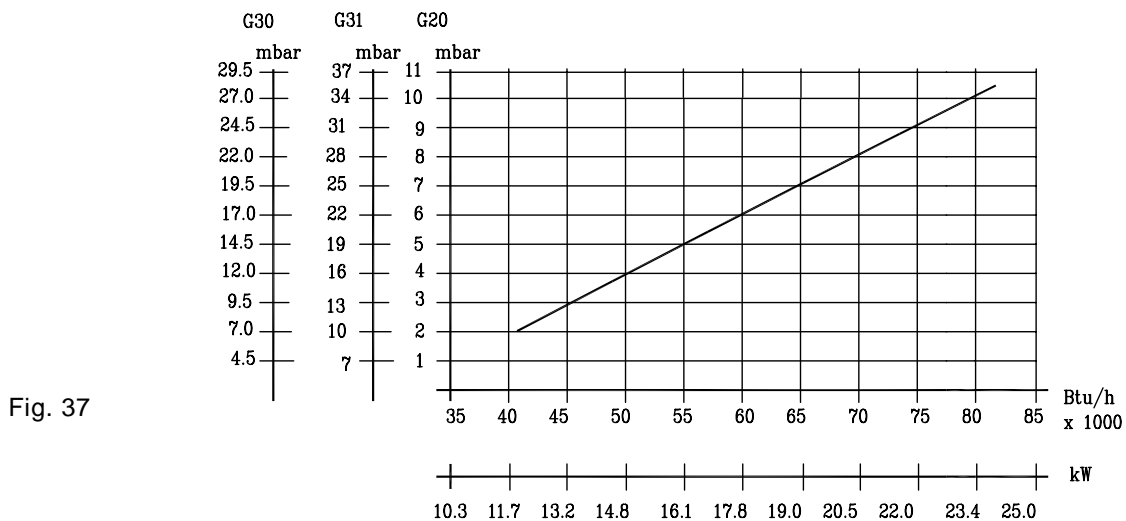

Fig. 37
- Check gas mains pressure (fig. 37). Fit a gas pressure gauge on pressure inlet 77 (fig. 36) on the gas valve, after releasing the seal screw.
- To obtain the desired heat value establish pressure as per (fig. 37).